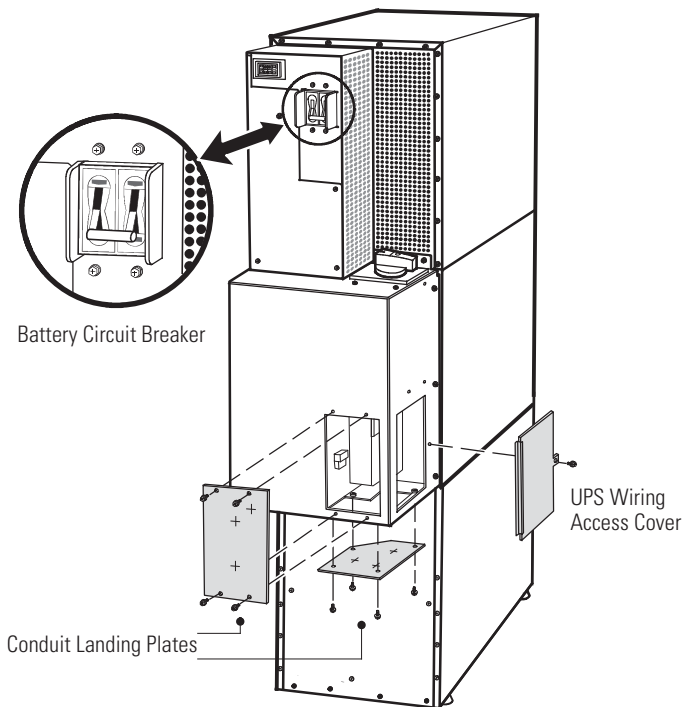

Figure 32. UPS Rear View (3-High Shown)
11. Verify that the UPS battery circuit breaker is in the OFF position (see Figure 32).